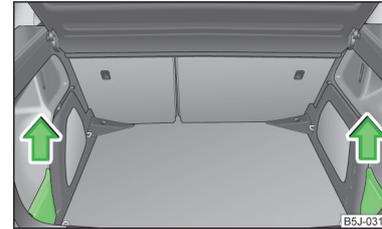

Fig. 92
- Grasp the top part of the cover and carefully remove it in the direction of the arrow » Fig. 92.